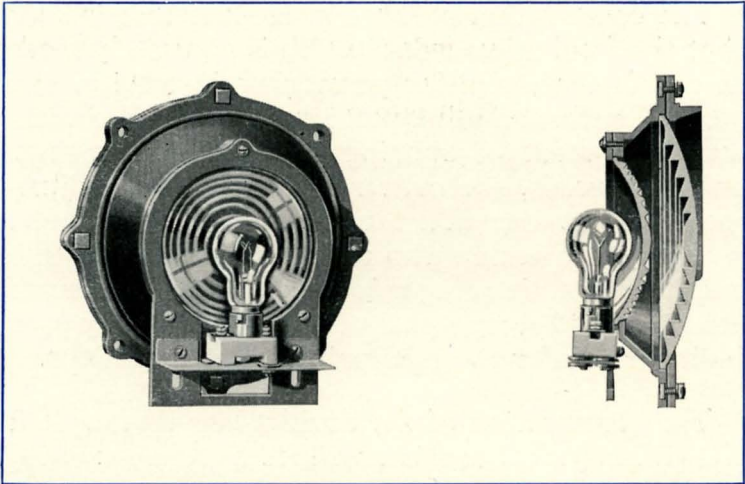

Figure 2 Doublet-Lens Unit
All types of G-R-S Color-light Signals, except the subway type, are equipped with doublet-lens light units, the construction of which is shown in figure 2.
The construction of the doublet-lens light unit is shown in figure 2 and is described as follows:
- 1st. The effective light from both filaments of a tungsten concentrated double-filament lamp is placed in the focal center of a doublet-lens, the outer lens being  $8\frac{3}{8}$  inches in diameter with a 4-inch focal length and the inner lens  $5\frac{1}{2}$  inches in diameter with a  $\frac{1}{2}$ -inch focal length. Due to the short focus of the inner lens, the lamp is well within the lens which collects practically all of the effective light from the front of the lamp. The bezel rings and cast-iron frame which hold the two lenses are accurately machined, so that when the unit is assembled the lenses will align and be held exactly in their correct positions. The doublet-lens with lamp and lamp receptacle, as shown in figure 2, may be removed as a unit, or either lens or the lamp may be removed and replaced without changing the focal adjustment.